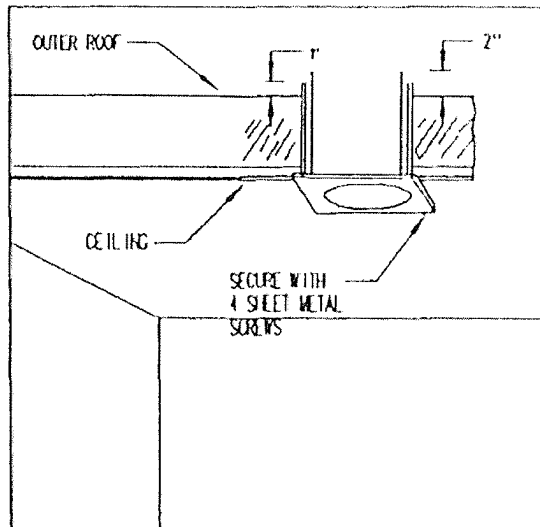

FIGURE 8
3. Next, use sheet metal cutters and cut off the outer shields so they extend 1" above the roof. Cut the inner shield so that it extends 2" above the roof and 1" higher than the outer shields. (See Figure 8).
5. Install a chimney section to the adapter and continue through the roof of the mobile home with additional chimney sections. (See Figures 8, 9, 10).